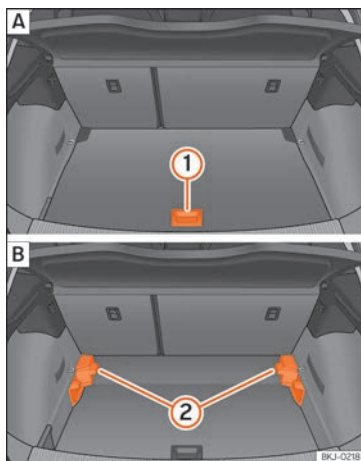

Fig. 166 Variable boot floor: [A] raised position; [B] lowered position.
- Lift the floor using handle » Fig. 166 ① and pull it back until the front of the floor has fully passed the supports ②.
- Move the floor forward over the supports as far as the rear seat backrest and then lower the floor with the handle ①.